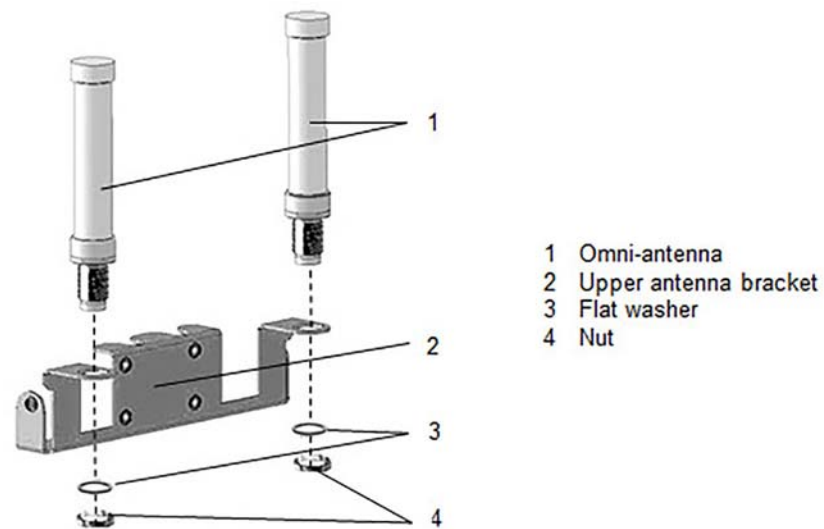

Figure 5-5 Installing omni-antennas on upper antenna bracket
2. Install up to two (2) omni-antennas on the upper antenna bracket as shown in Figure 5-5 using hardware removed from the antennas in step 1.